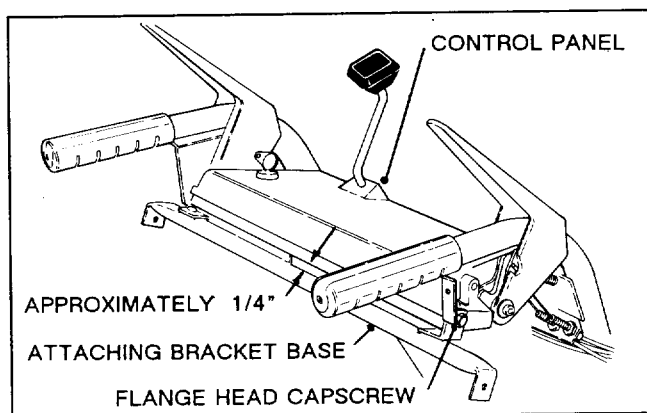

Figure 2
2. Remove (2) flange head capscrew securing control panel to handles (one on each side) and loosely secure attaching bracket base to handles with flange head capscrews removed (Fig.2).
3. Pivot attaching bracket base rearward until there is approximately 1/4" space between bracket and control panel, then tighten flange head capscrews securing bracket to handles (Fig.2).